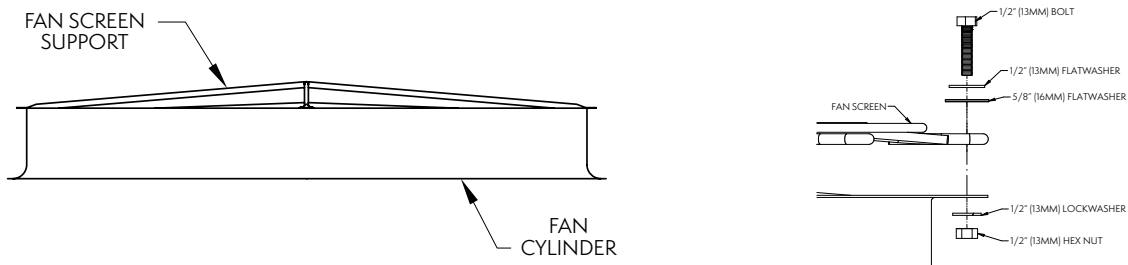

Figure 14 – Fan Screen Support & Fan Screen Installation
1. Set the fan screen support across the top of the fan cylinder as shown in **Figure 14**.
4. At each hole, attach the fan screen to the fan cylinder as shown in **Figure 14**.